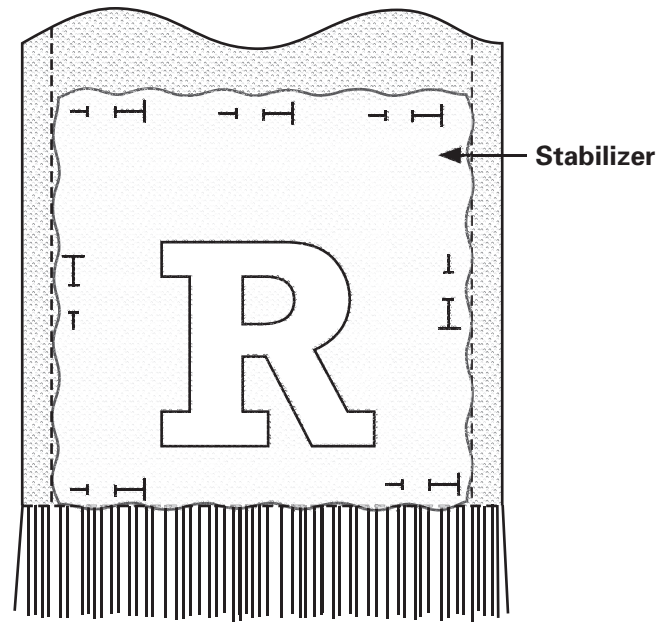

Fig. 3-4
6. Cut two, 8-inch (20.5-cm) squares of water-soluble stabilizer. Use the permanent marker to trace the letter in the center of each piece. Spray the back of the stabilizer squares with adhesive basting spray. Fasten a square of stabilizer to each end of the scarf, aligning the side and lower edges with the stitching lines. Be sure the bottom of each letter is near the fringe. Pin the edges of the stabilizer to the scarf. (Fig. 3-4)